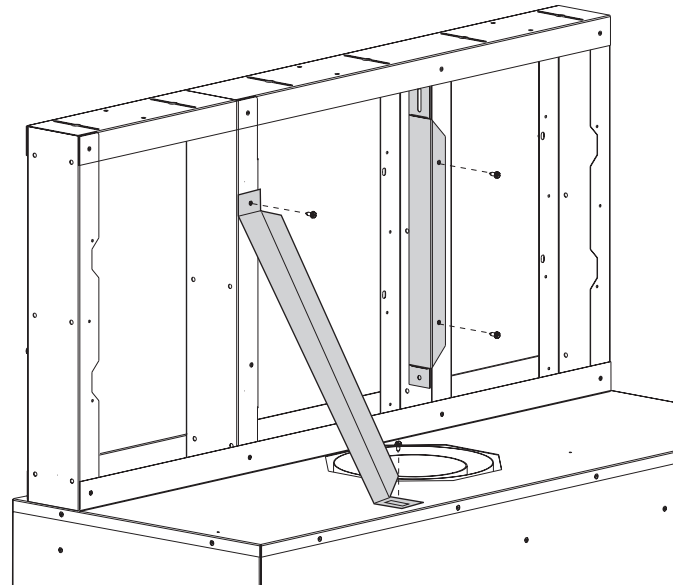

Figure 4.2.
3. Detach the Header Support Brackets from their shipping positions on the stand-off studs. Fig. 4.2. Attach the Support Brackets to the rear of the two center framing members using the sheet metal screws previously removed. Orient the brackets with the slotted ends attached to the top of the cabinet as shown.